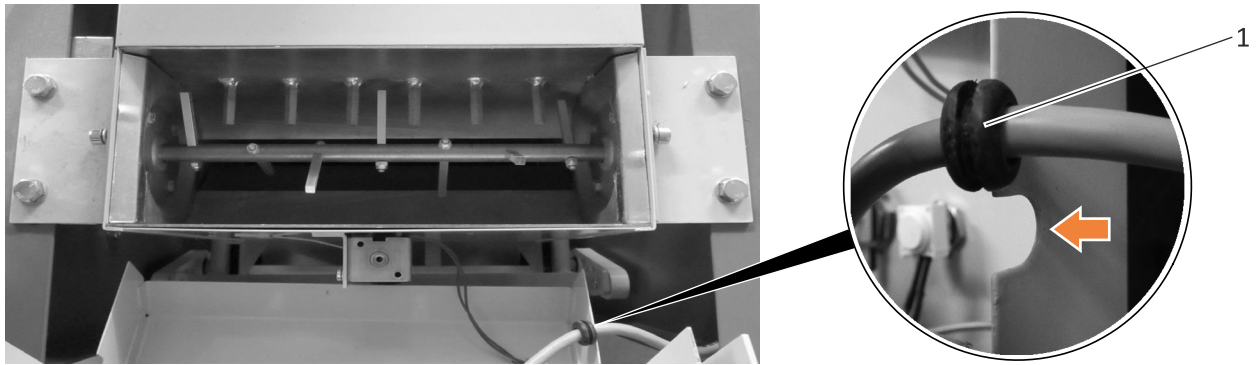

Figure 25: Rubber bush at the filling container
- ⇒ Insert the rubber bush on the casing through the recess; refer to *Figure 25*.